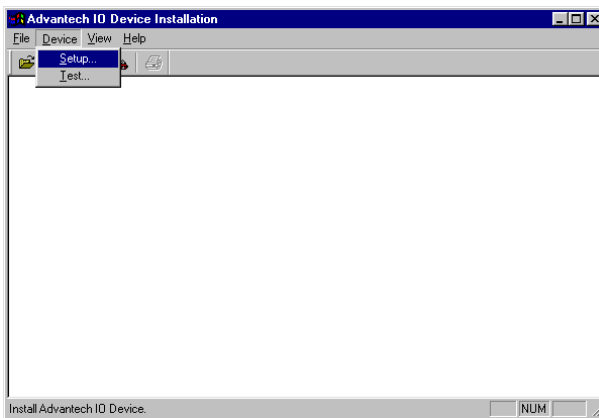
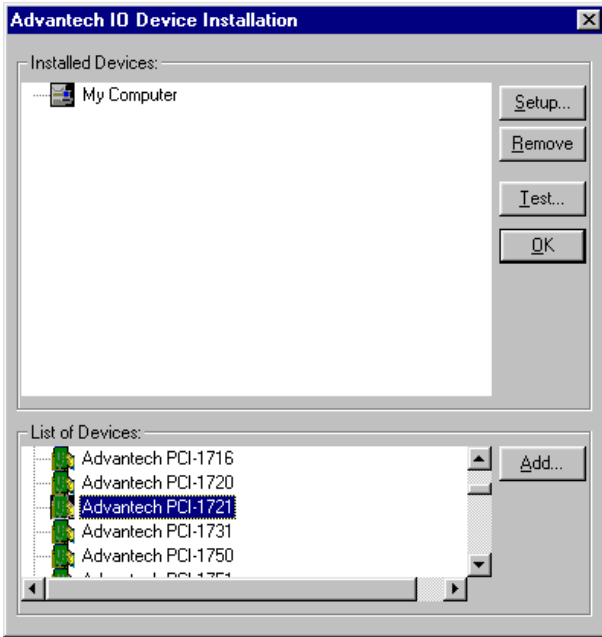

Fig. 2-7 The Advantech Device Installation utility program
Fig. 2-8 The I/O Device Installation dialog box
Step 2: On the *Device Installation* program window, select the *Setup* menu item on the menu bar, and click the *Device* command (Fig. 2-7) to bring up the *I/O Device Installation* dialog box (Fig. 2-8). You can then view the device(s) already installed on your system (if any) on the *Installed Devices* list box. Since you haven't installed any device yet, you might see a blank list such as the one on the next page (Fig. 2-7).